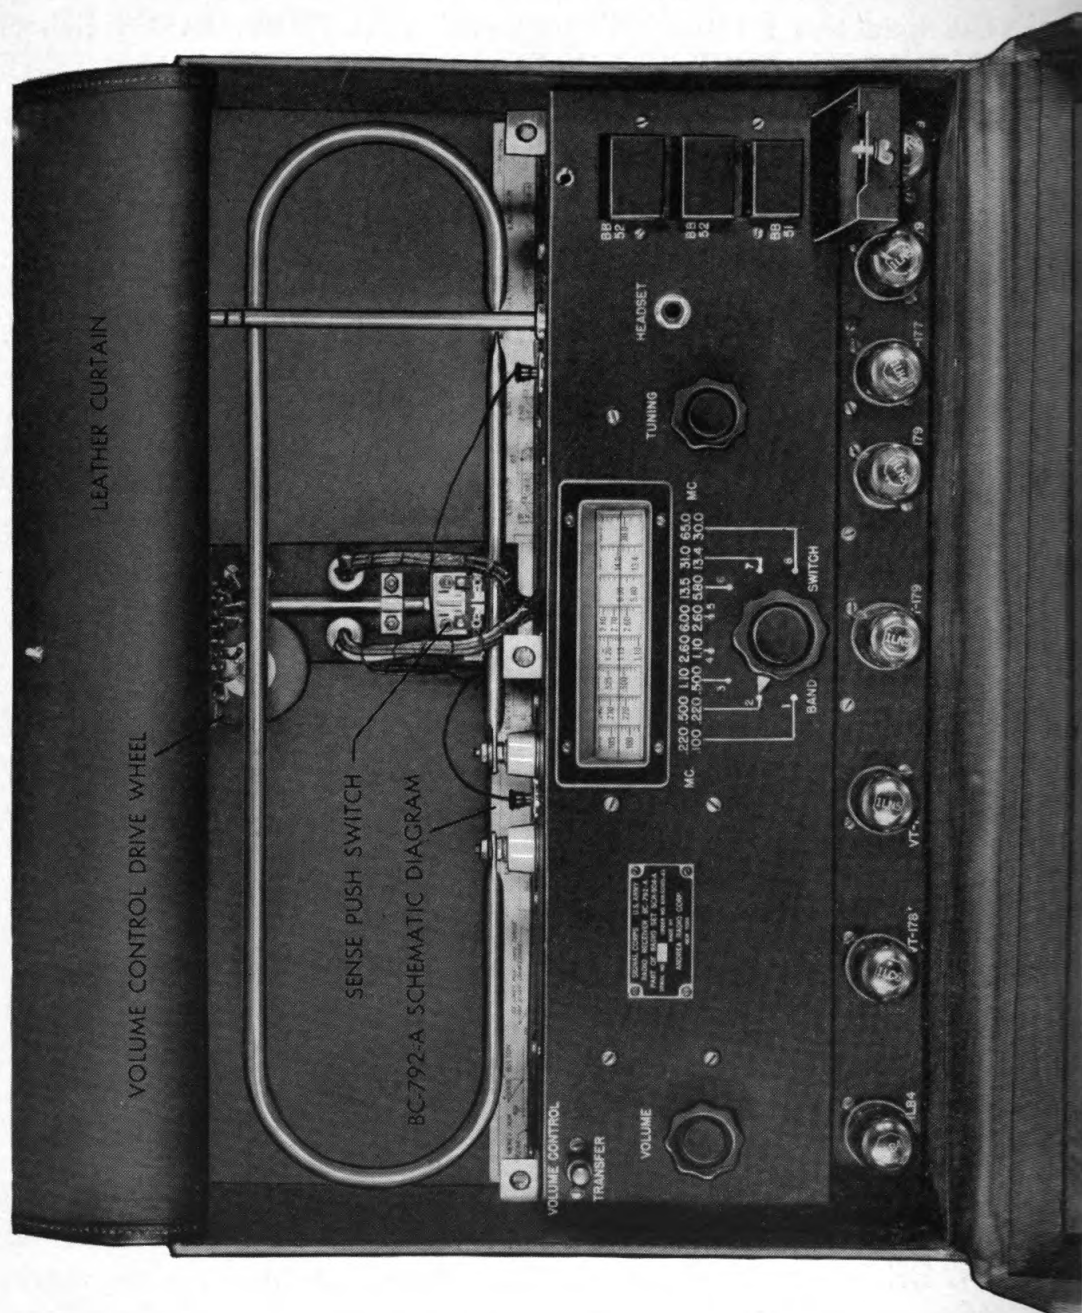

Figure 10. Radio Receiver BC-792-A, Suitcase Open, Curtain Up, Showing Loop Antenna, Battery Box Open Showing Batteries
*b.* Turn wing fastener at top of battery compartment door at right side of panel and open battery compartment door. Push BB-51 and two BB-52 batteries into compartments indicated by the markings (figure 10). Make sure to push them in as far as they’ll go. Close and fasten battery compartment door.
*b.* Select frequency band by turning BAND SWITCH knob, front of receiver panel (figure 10).
*e.* Tune in the desired signal with TUNING control. The signal frequency is indicated in megacycles on the drum dial above the BAND SWITCH markings (figure 10).